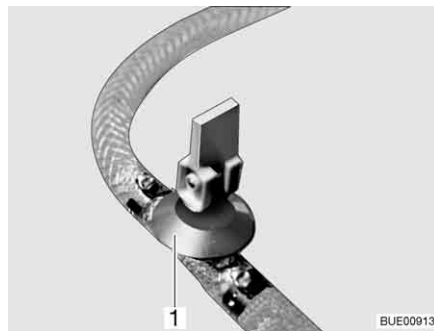
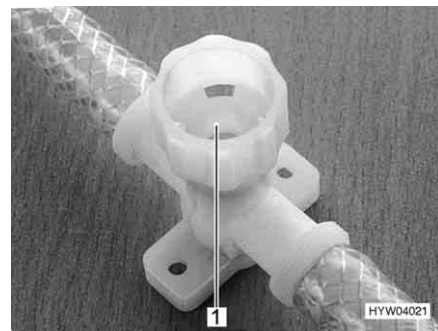

Fig. 237 Drain cock (with rocking lever)
Fig. 238 Drain cock (with twist cap)
- Open all drain cocks. To do this, position the drain cock's rocking lever (Fig. 237, 1) vertically or turn the drain cock's cap (Fig. 238, 1) in an anti-clockwise direction.